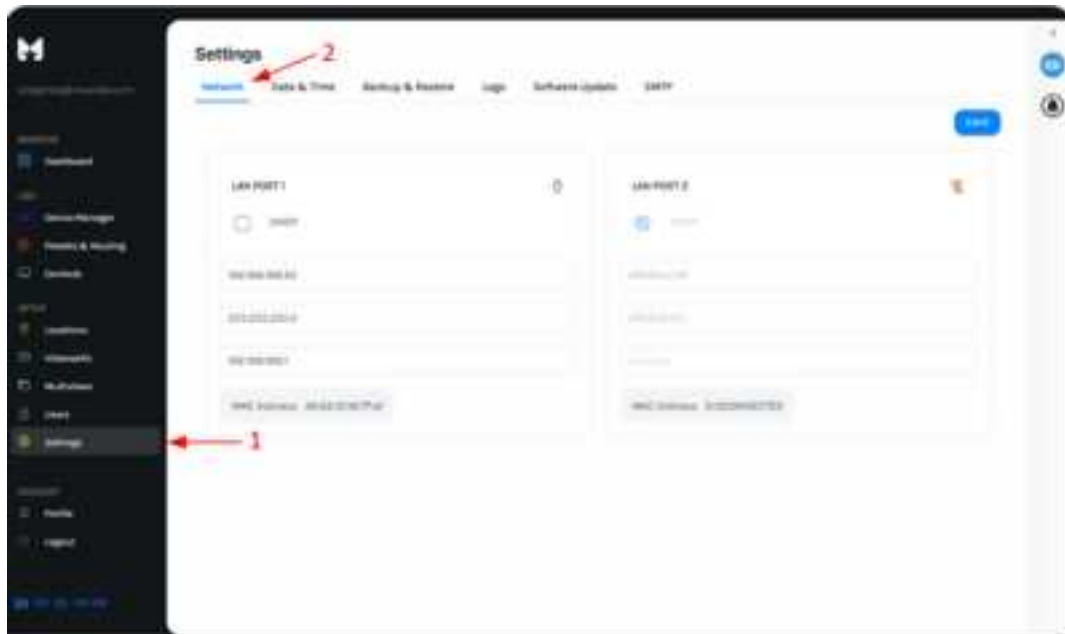

Figure 7
8. After logging in, click on the settings tab and then click on the Network option. Figure 7